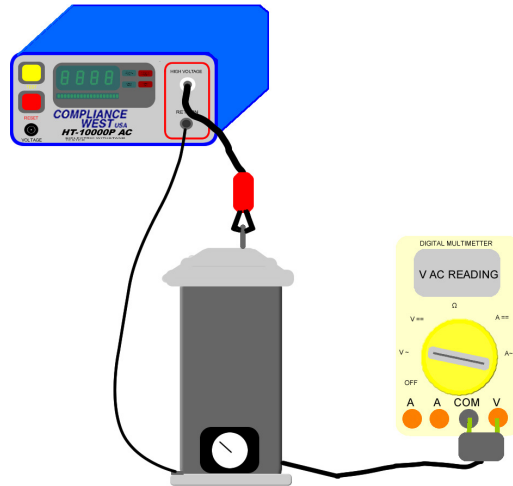

Figure 4-1. Voltage Measurement with 1000:1 High Voltage probe
3. Set up a 1000:1 probe with and external volt meter has is shown on Figure 4-1. For AC/DC models, use the proper HV output.
2. Set up a 1000:1 probe with the volt meter has is shown on Figure 4-1. For AC/DC models, use the proper HV output.